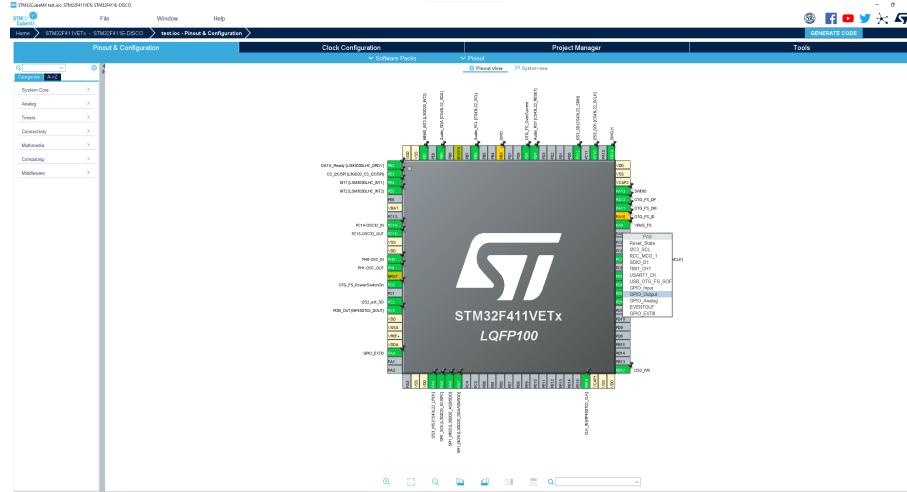

Figure 11: Left-click PA8
If you decided to initialize with default values, you should now see the pinout & configurator as shown in figure 11.
- Configure a project using from an empty pinout. Clear the default pinout in the 'Pinout & Configurator tab' (fig. 11), in the 'Pinout' drop-down menu select 'Clear Pinout'. Configure the blue button as an input and the LEDs as an output.